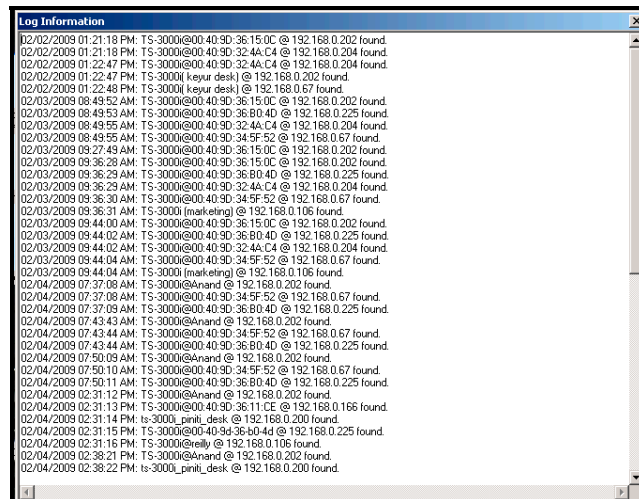

Figure 5-18. View Utility Log Information.
- **Log** – Use this function to view a continuous log of TS-3000i Utility functions (see *Figure 5-18*) from the **ts-3000i_Util.log** file. The log is arranged in ascending order by date.